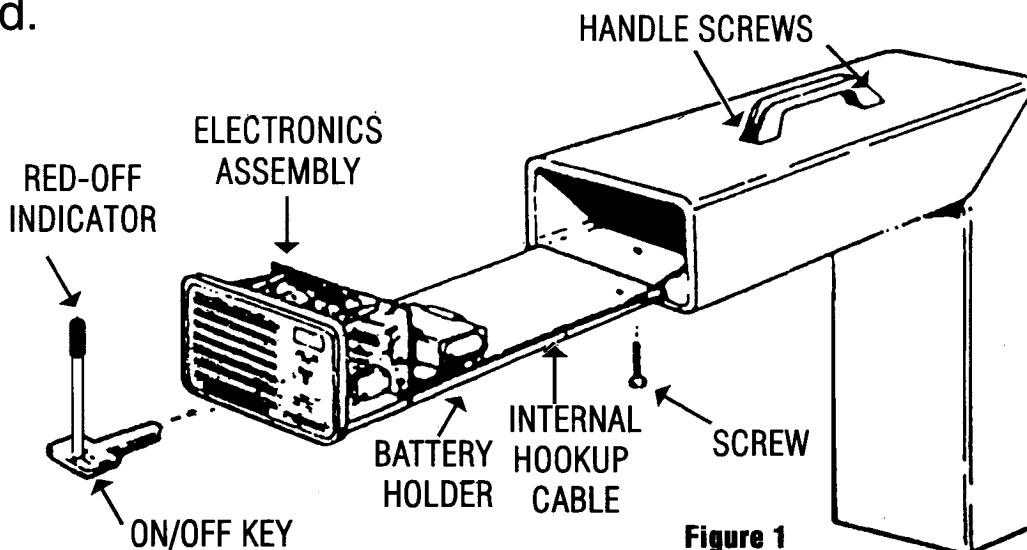

Figure 1
The two handle screws are located in the top of the alarm, remove them and attach the handle, (See Figure 1)
- When you see the **RED OFF INDICATOR**, (figure 1) in the pool alarm, the alarm is in the **OFF POSITION**.
- Remove the screw from the bottom of unit, refer to Figure 1.
To prevent possible damage, battery should be removed whenever storing the alarm. Poolguard has a low battery feature. The POOL ALARM, (figure 1) will chirp about every 20 seconds to alert you that the battery is low and needs to be replaced.